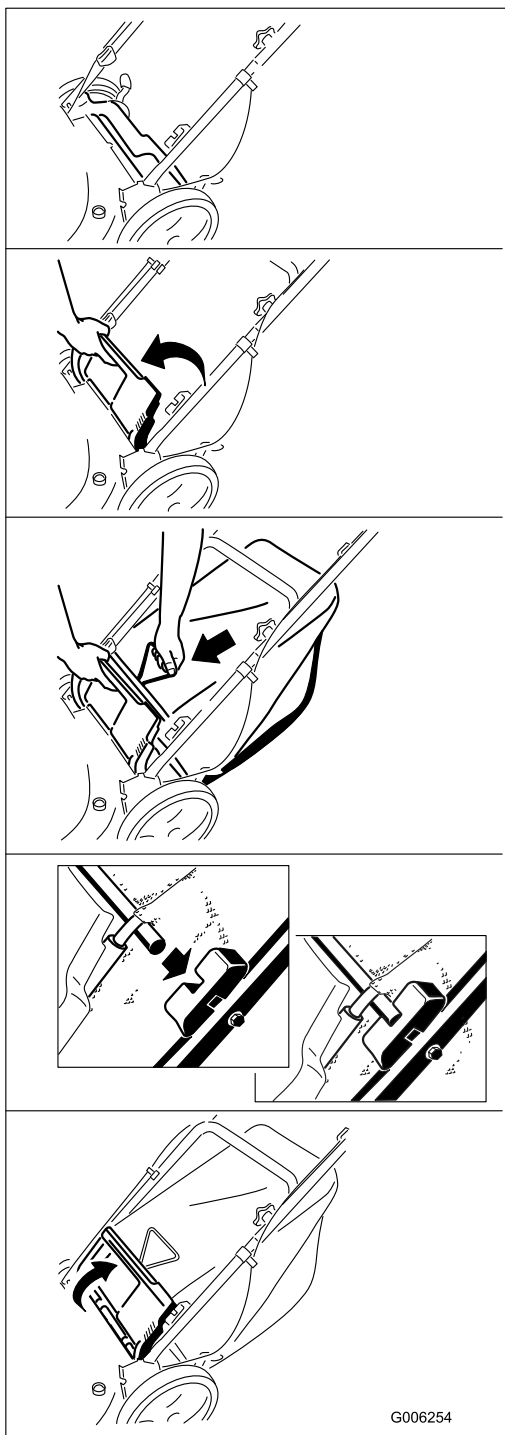

Figure 22
2. Install the grass bag (Figure 22).